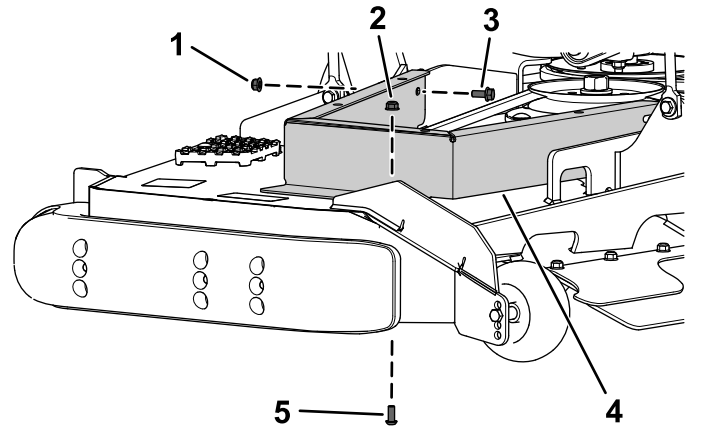

Figure 7
2. Secure the left pulley-mount guard to the mower deck using the previously removed button-head bolt (5/16 x 3/4 inch) and flange nut (5/16 inch) and new flange-head bolt (5/16 x 3/4 inch) and flange nut (5/16 inch) as shown in Figure 7.